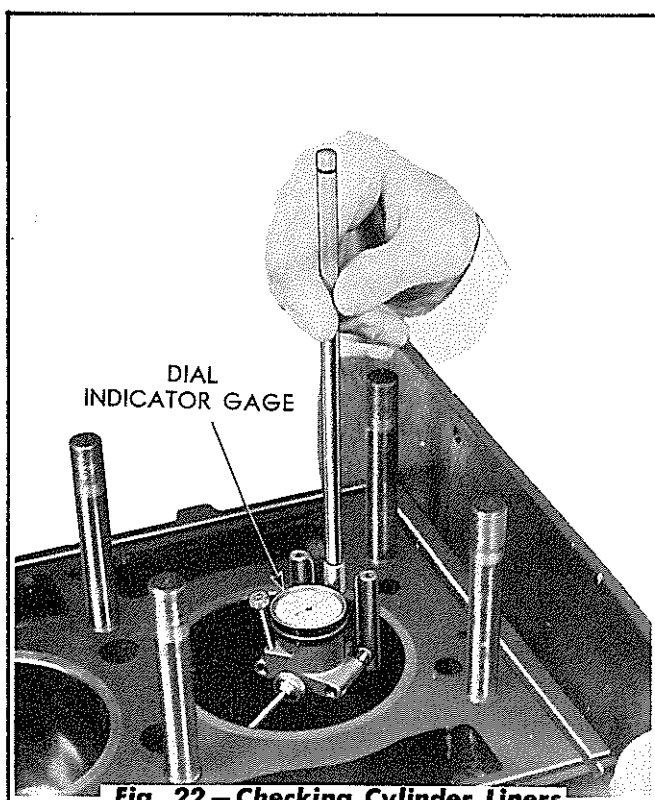
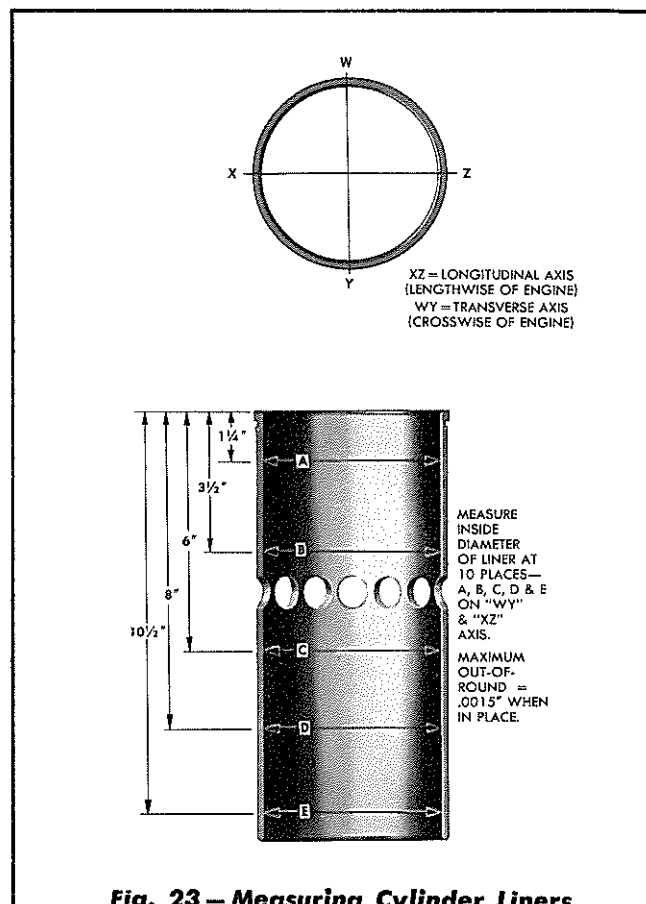

Fig. 22 – Checking Cylinder Liners for Roundness
Fig. 23 – Measuring Cylinder Liners
2. Check the cylinder liners for roundness, taper, and the amount of wear by means of a gage similar to the one shown in Fig. 22. Measure each cylinder liner as outlined in the diagram in Fig. 23. Do not install cylinder liners that have more than .0015" taper or that are more than .0015" out of round when installed. Be sure that the cylinder liners slide into the cylinder block bores freely to insure a loose fit. If the bores in the block are in a tapered or out-of-round condition, they should be honed slightly with a fixed-stone hone to remove the high spots.